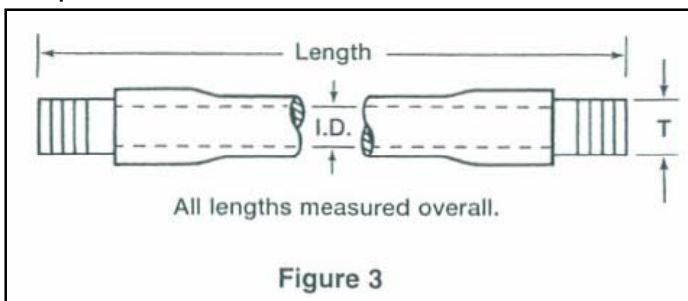

Figure 3
1. Includes standard connector and/or special adapters (see Figure 3).